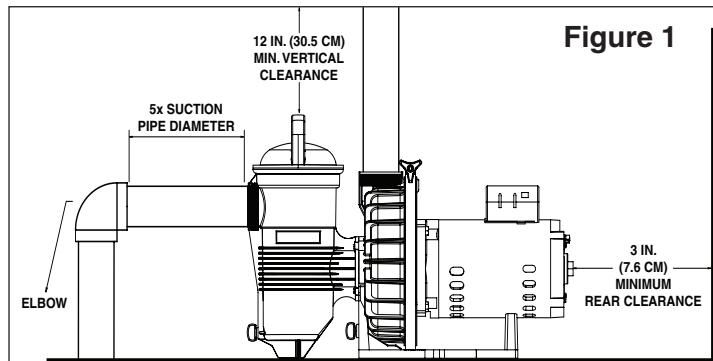

Figure 1
6. Install the pump with a rear clearance of at least 3 inches (7.6 cm) so that the motor can be removed easily for maintenance and repair. A vertical clearance of 12 inches (30.5 cm) is required for strainer basket removal. See **Figure 1**.
6. For most installations Pentair recommends installing a valve on both the pump suction and return lines so that the pump can be isolated during routine maintenance. We also recommend a valve, elbow or tee installed in the suction line should be no closer to the front of the pump than five (5) times the suction line pipe diameter. See **Figure 1** on previous page.